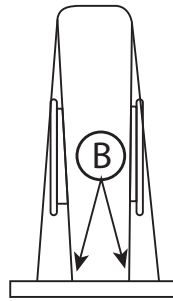

FIG. 2
- Step 3:** Measure around the outside of the turbo as shown in figure 2 and 4. The narrow side of the turbo is dimension B.